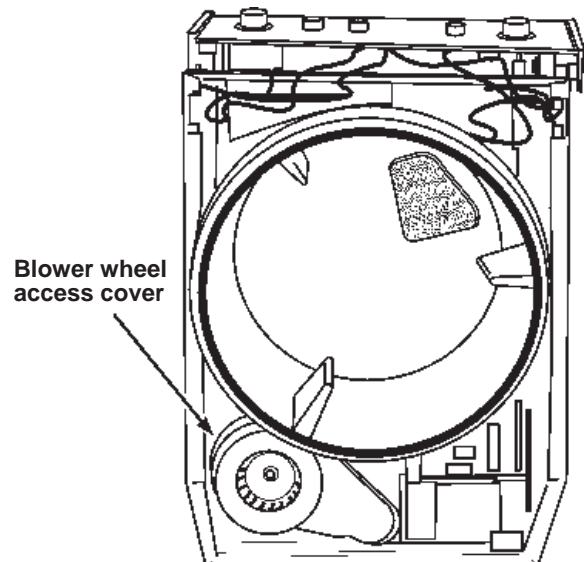

Figure 8
1. Remove blower wheel access cover. See Figure 8.